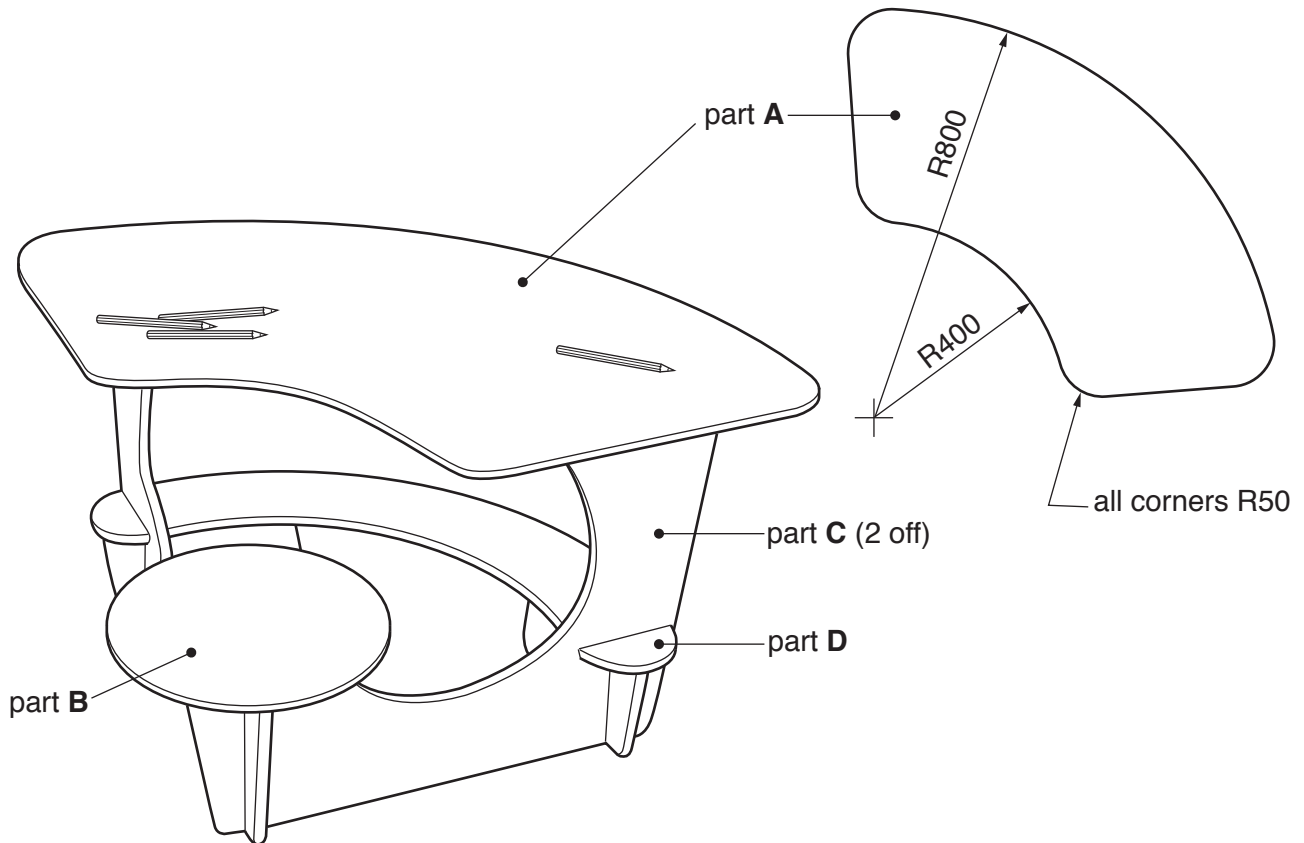

Fig. 1
- 1** Fig. 1 gives details about a combined desk and seat unit which is to be made in a school workshop. Five parts, made from blockboard, will slot together to make the frame that supports the top (part **A**) and the seat (part **B**).